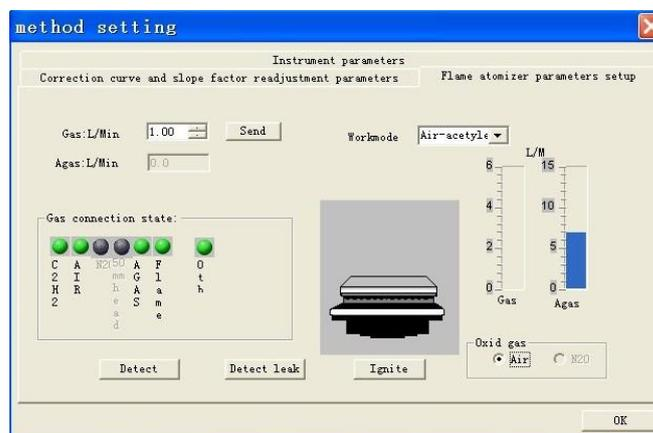

Figure 4-40
1. The screen of "Flame atomizer parameters" is as shown in Figure 4-40.